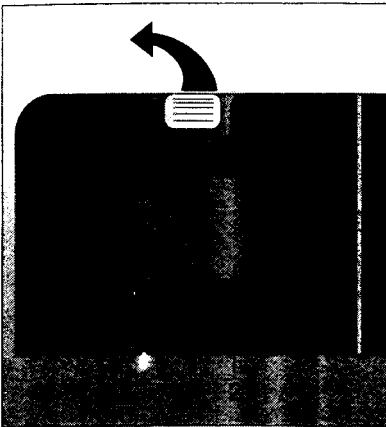

Fig. 9
- Press the lever forward (Fig 9/1). The lid springs open.
In case of heavily soiled dishes, it is possible to add extra detergent to the tray on top of the dispenser lid (Fig 9/2). Fill until level. The extra detergent will be added during the prewash.